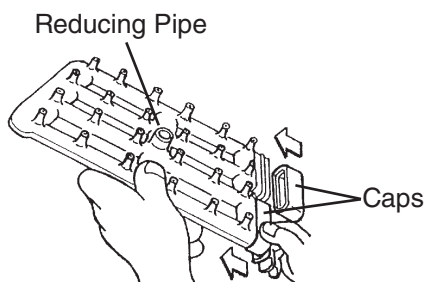

**Fig. 41**
- 7) Disconnect the discharge tube from the spray assembly, then slide out the spray assembly. See Fig. 41.